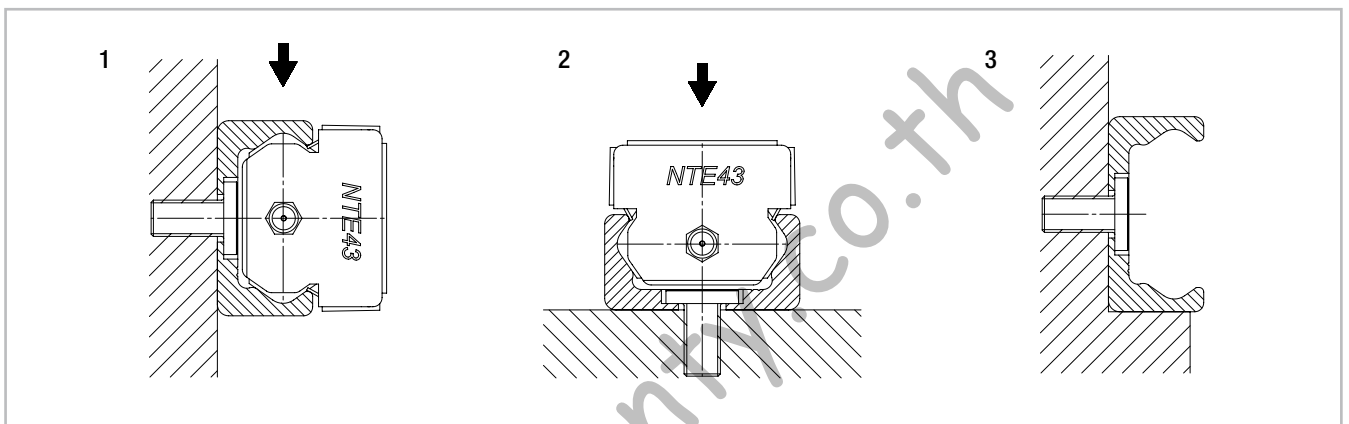

Fig. 98
The T- and K-rails can be installed in two positions relative to the external force. For axial loading of the slider (fig. 98, pos. 2), the load capacity is reduced because of the decline in contact area caused by the change in position. Therefore, the rails should be installed in such a way that the load on the rollers acts in the radial direction (fig. 98, pos. 1). The number of fixing holes in the rail in combination with screws of property class 10.9 is dimensioned in accordance with the load capacity values. For critical applications with vibrations or higher demand for rigidity, a support of the rail (fig. 98, pos. 3) is advantageous.